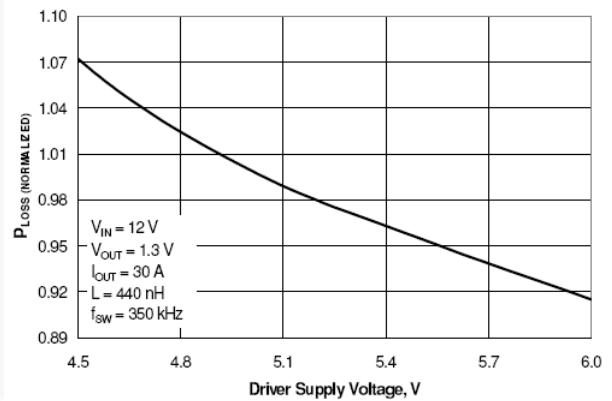

Figure 7. Normalized Module Ploss vs. Vcin & Vdrv
- Ploss at 10 Vin and 5.5 Vcin. Note Figure 7